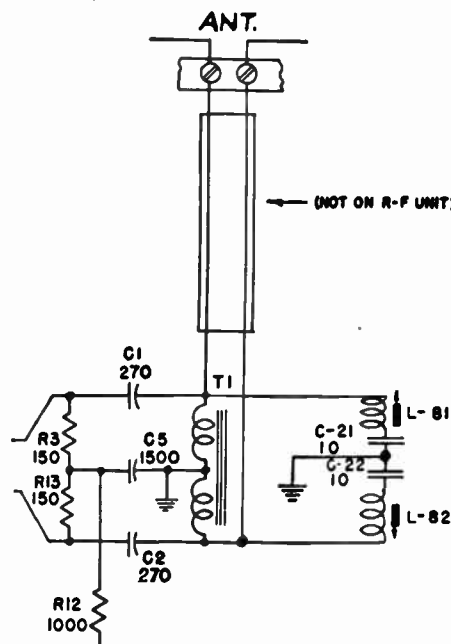

Fig. 4. The f-m traps used in the 9-408 and 9-408(50).
A final difference between these two groups of receivers is the use of two f-m traps L81 and L82 in the 9-408 and 9-408(50) series. These are connected as shown in Fig. 4. See trap adjustment data elsewhere in this issue of *Successful Servicing*.